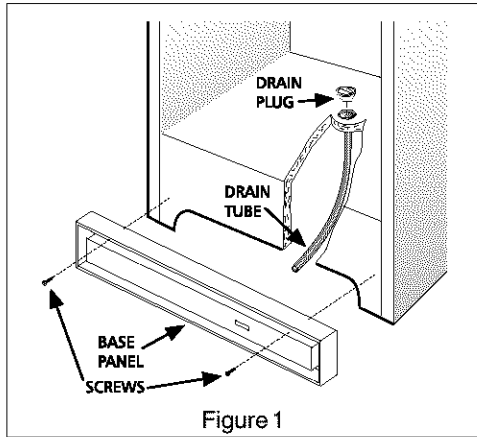

Figure 1
- **On upright models** with a defrost drain (Figure 1), remove drain plug on the inside floor of the freezer by pulling straight out. To access external drain tube on models with a base panel, first remove the two screws from the base panel. Locate the drain tube near the left center under the freezer. Place a shallow pan under the drain tube. Defrost water will drain out. Check pan occasionally so water does not overflow. A $\frac{1}{2}$ inch garden hose adaptor can be used to drain the freezer directly into a floor drain. If your model is not equipped with an adaptor, one can be purchased at most hardware stores. Replace the drain plug when defrosting and cleaning are completed. If the drain is left open, warm air may enter freezer.